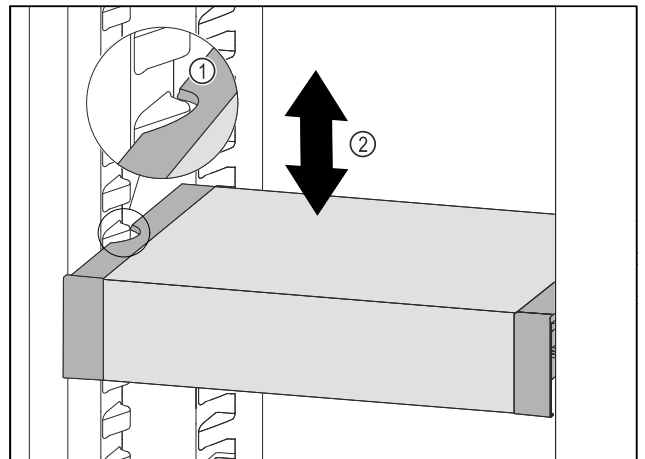

Fig. 123
- ▶ Pull VarioSafe forwards until the recesses in the side of the VarioSafe are at the level of the support rib in the refrigerator compartment. Fig. 123 (1)
- ▶ Move VarioSafe up or down in the refrigerator compartment until the desired height is reached. Fig. 123 (2)